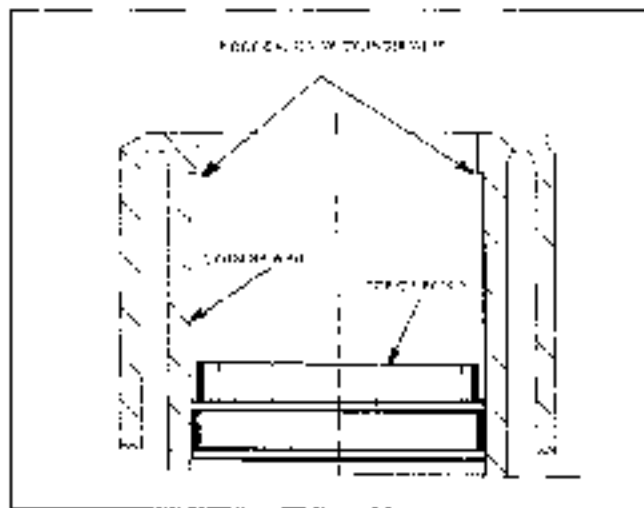

Fig. 6-112 Cylinder Ring Ridge
4. Remove ring ridge (Fig. 6-112) using suitable ring ridge remover.